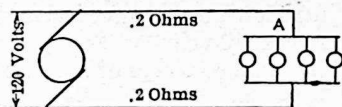

FIG. 78
**Prob. 62.** The lamp bank A, Fig. 78, uses 6 amperes.